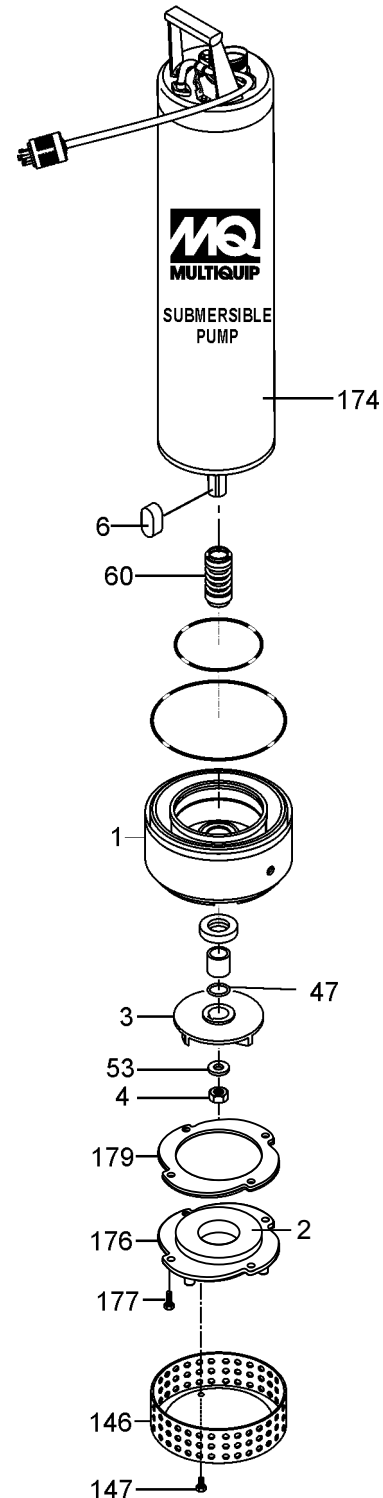

**Figure 22. Lubrication Oil Inspection**
1. Block the oil fill opening with a finger and roll pump to one side to drain (Figure 22) oil into a small transparent container.